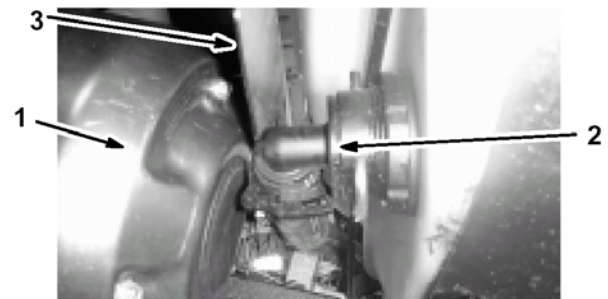

Figure 1
- B. Disconnect the hose located on the lower-front face of the tank (Fig. 1).
Note: On a sprayer, you may need to push the heat shield (Fig. 1) back as you remove the cover.
- On a sprayer, connect the hose on the front of the tank (Fig. 1).